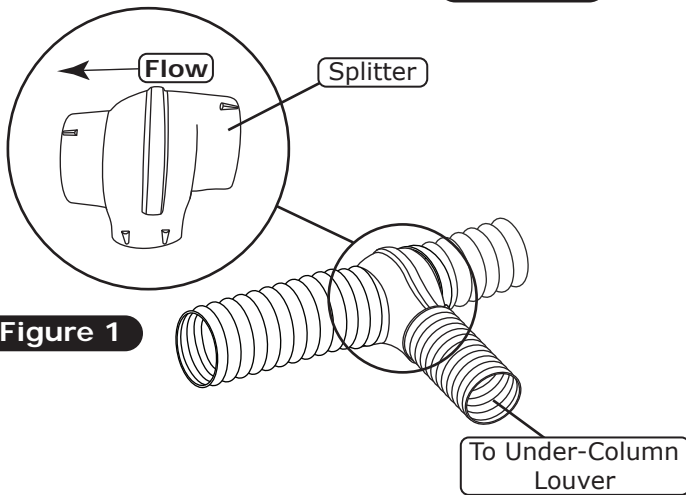

Figure 1
12. Install the 2" duct hose onto the splitter, then to the under column louver hose adapter (See Figure 1, below).